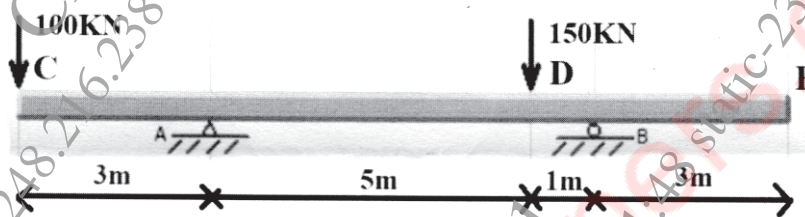

Fig 4.2
b) Draw SFD & BMD, of the beam shown in figure 4.2, also find the POC from left end.